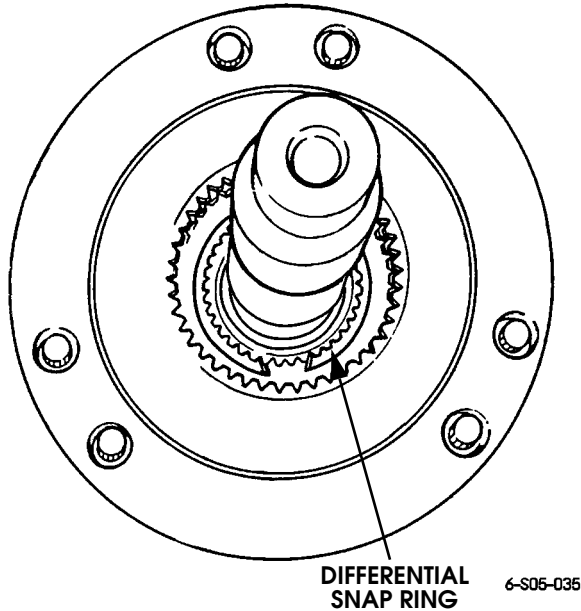

Figure 5-104: Differential Snap Ring Location
- 25. Remove differential snap ring (Figure 5-104).